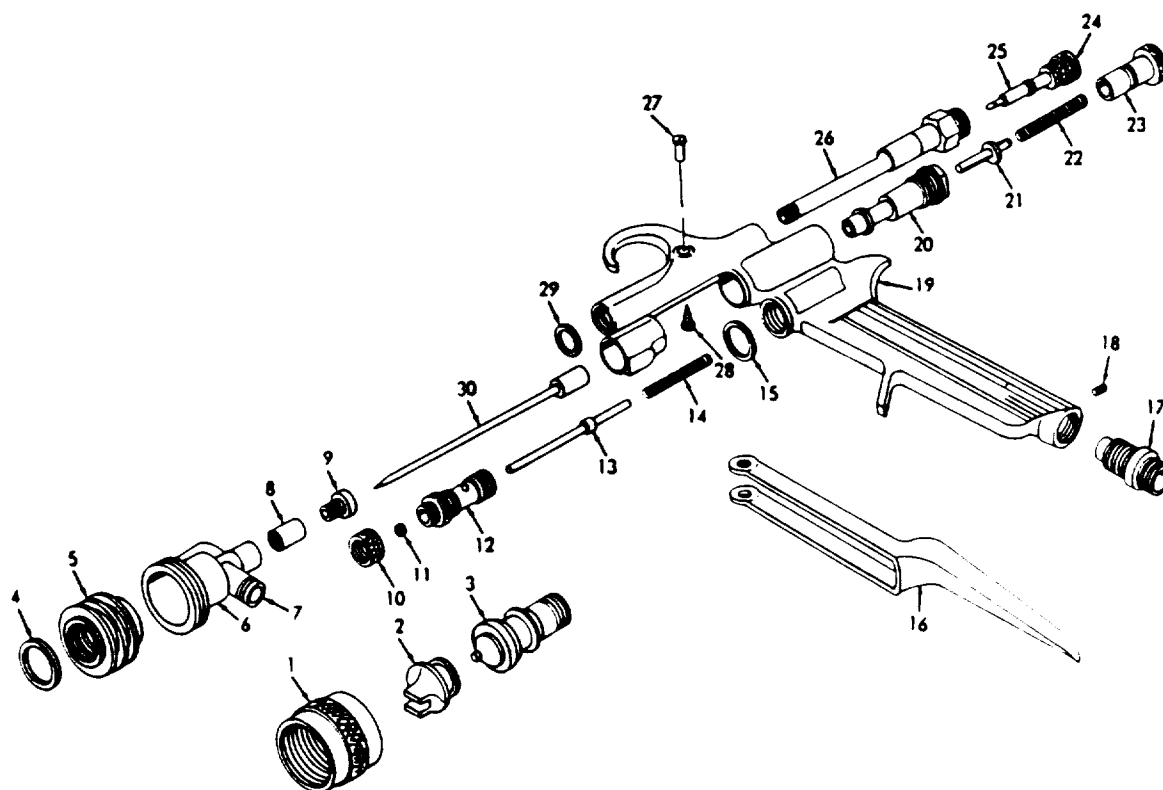

Figure 5-5. Removable Spray-Head Type Spray Gun, Exploded View
*a. Material Leakage from Fluid Needle Packing Nut.* This condition is caused by a loose packing nut or by dry fluid needle packing. To remedy, remove and soften the packing with a few drops of light oil. Re-install and tighten packing nut to prevent leakage. See figures 5-5 and 5-6.